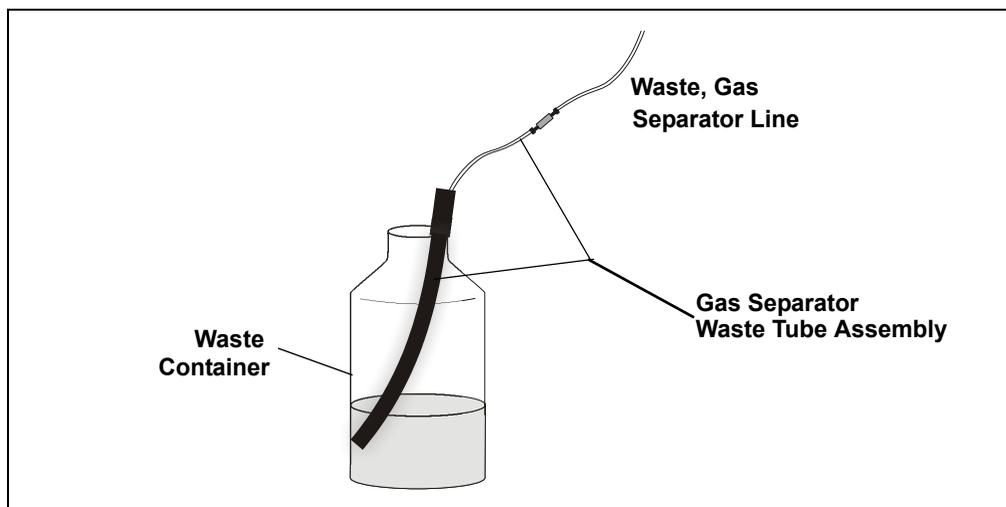

Figure B-22. Gas Separator Waste Tube Installation
that the gas separator waste tube and the waste container are open to the atmosphere (see Figure B-22).
**DO NOT CAP THE WASTE CONTAINER:** The ICS-1000 uses an electrolytic process that results in the production of small amounts of oxygen or hydrogen gas. To ensure that the gas is not trapped in a closed container and allowed to concentrate, install a 1.3-cm (0.52-in) ID black gas separator waste tube (P/N 045460) in an uncapped waste container. Connect the Waste, Gas Separator line to the waste tube (see Figure B-22).